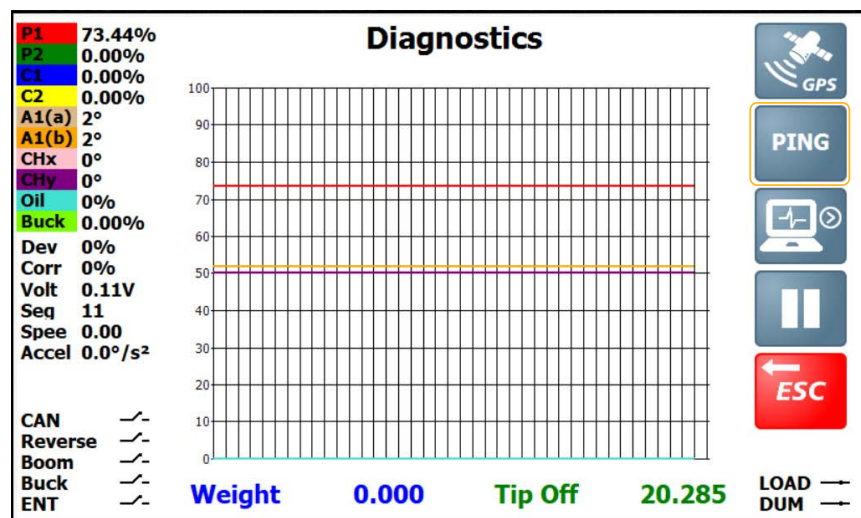

Figure 2-11: Load Weighing Display Diagnostics
2. Select **Diagnostics** to open the **Diagnostics** screen (Figure 2-11).